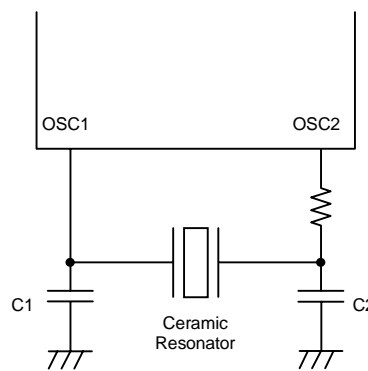

Figure 3 Ceramic Resonator Circuit
- (1) When oscillated internally under the oscillating conditions in Fig.3, generated voltage can be over the maximum limit of the VDD.
- (2) Average for 100 ms period.
- (3) Operating supply voltage VDD must be held until the microcontroller enters in the standby mode after the execution of the HALT instruction. Any chattering should not be generated at the PA3 pin during the HALT instruction execution cycle.
- (4) Recommended circuit constants that are verified by the oscillator manufacturer, using oscillator characteristic evaluation board selected by SANYO.
- (5) The OSC1 pin will have schmitt characteristics when external clock oscillator or the two-pin RC oscillator is selected as an oscillation option.
- (6) These are the results of testing using the value at each part on the Fig.3 circuit which is recommended by SANYO. These results do not include the current applied to the output transistor, nor the current applied to the transistor with a pull-up resistor on the LSI.
- (7) fCFOSC is the frequency when the values in table 1 are used.
- (8) This indicates the elapsed time that is required before the oscillation becomes stable after the VDD exceeds the minimum limit of the operation supply voltage.
- (9)  $TCYC=4 \times \text{system clock period}$
- (10) When used in an environment that may result in condensation, note that a current leakage between PE1 and adjacent pins or a current leakage at external integration circuit using R and C could occur.